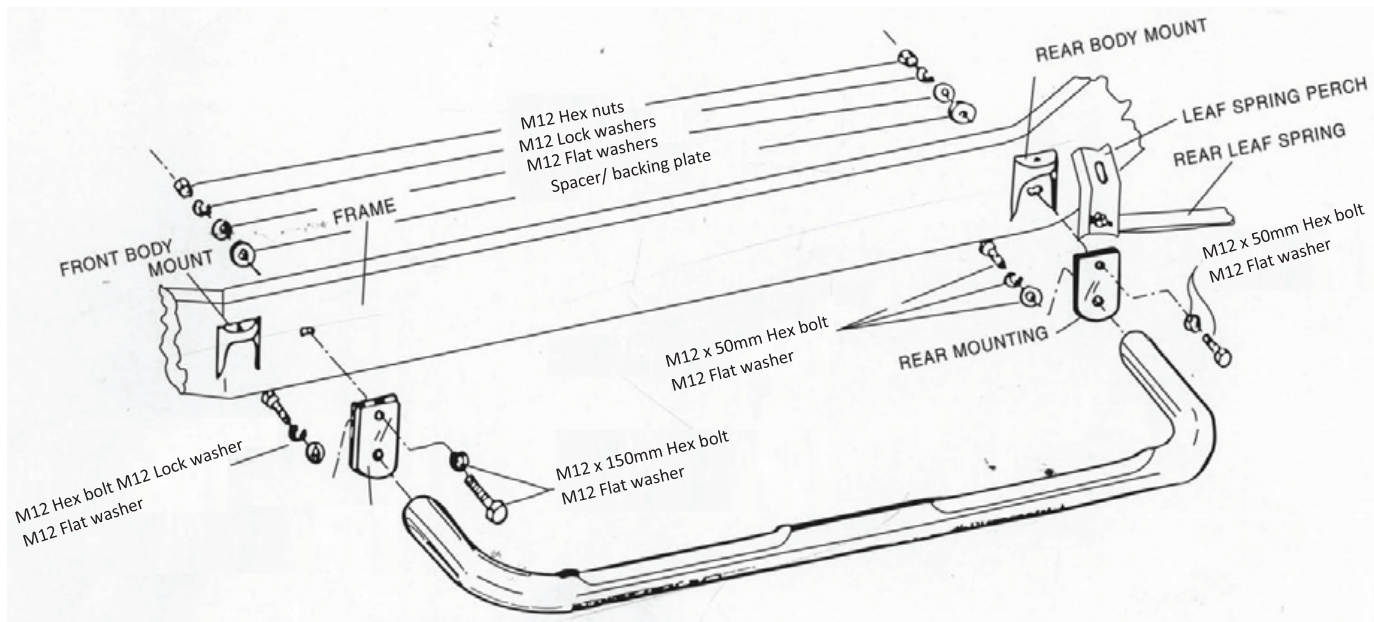

Figure 1
1. Attach one front mounting plate and one rear mounting plate to tube end and secure plate with M12 x 50mm bolt, lock washer and flat washer. Snug the hardware, but do not fully tighten. See Figure 1.